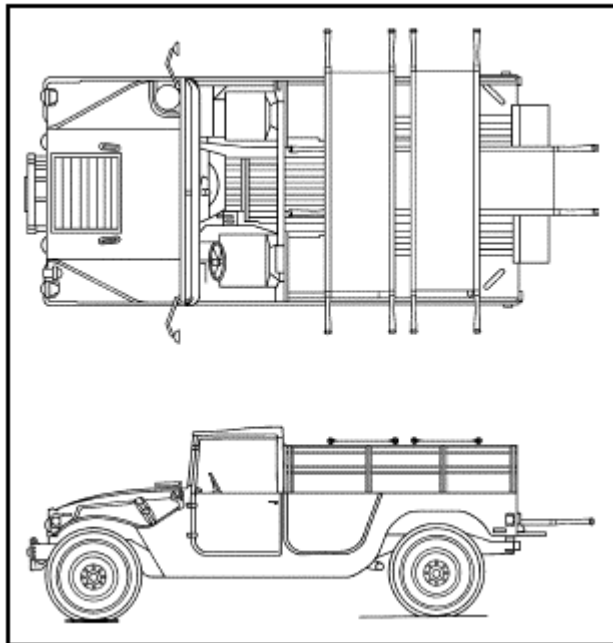

Figure 3-54
2. Direct nonmedical soldiers to load an M998 (four-man configuration). (See Figure 3-54.)